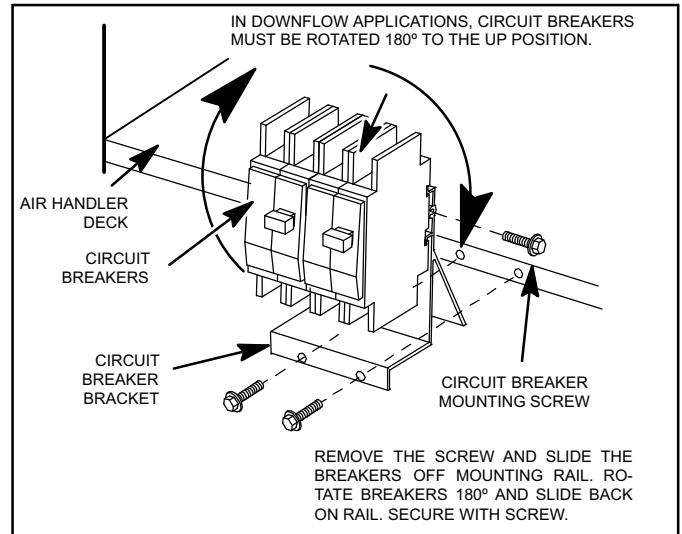

Figure 3. Electric Heat Section with Circuit Breakers
1. Install the circuit breaker on the air handler deck flange. Use the provided six screws to secure the circuit breaker (see figure 3).
**NOTE** - When applied in the down flow position, the **circuit breakers must be rotated to the UP position**. See figure 3 and follow the procedure below: